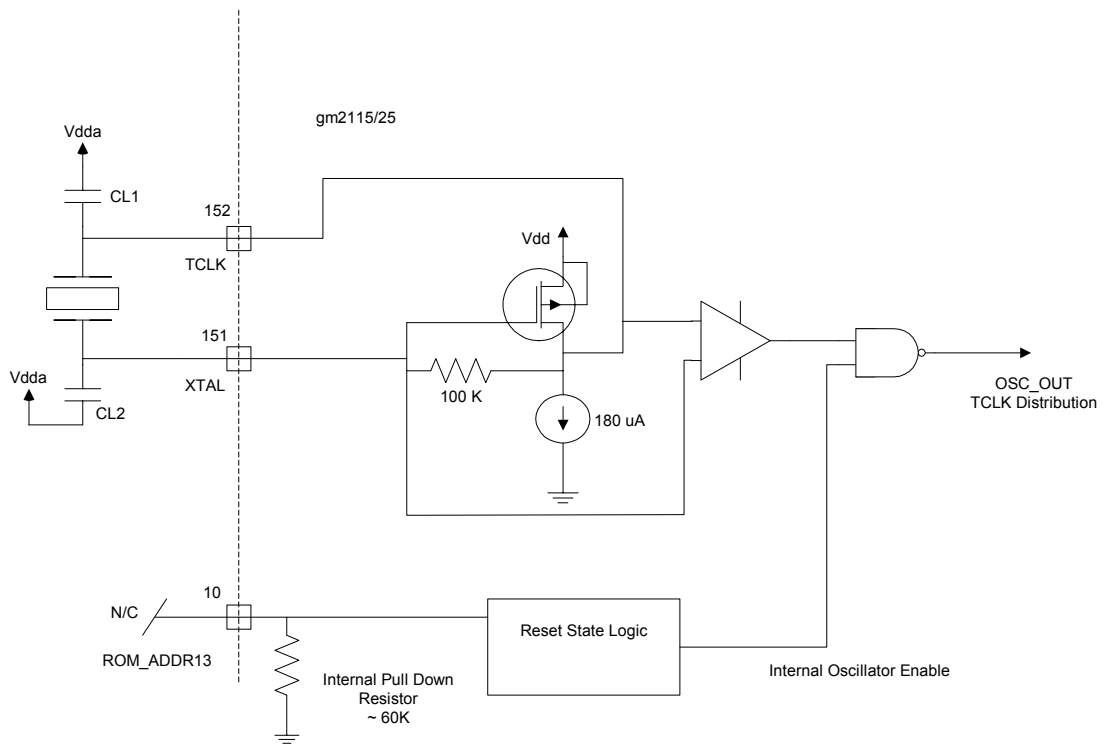
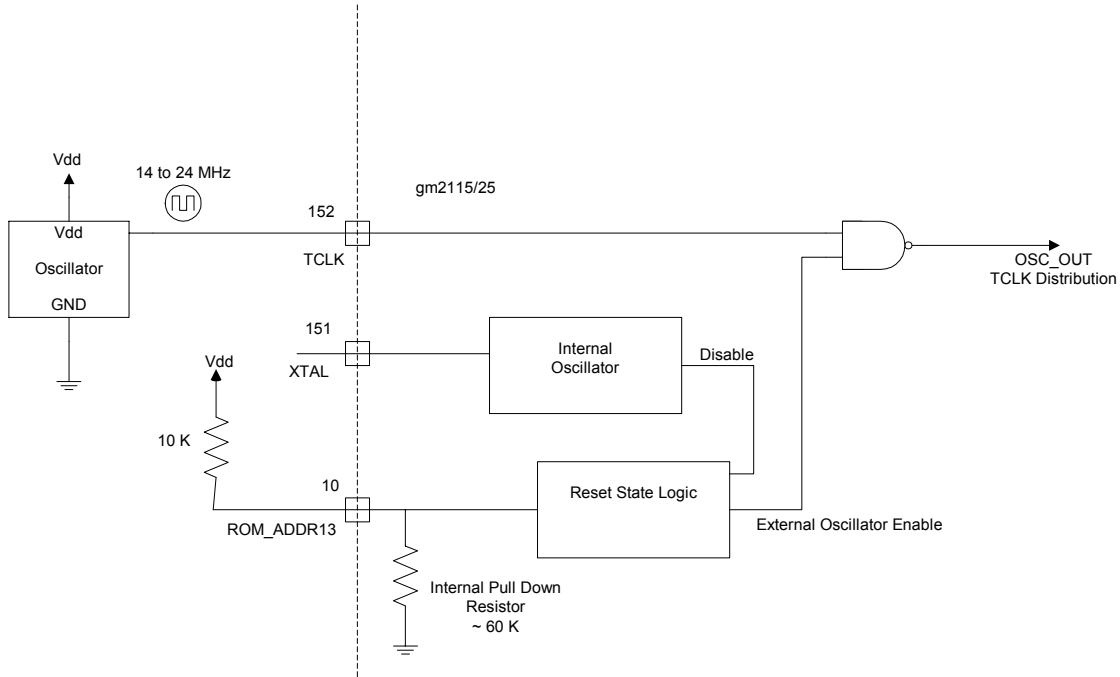

Figure 4. Using the Internal Oscillator with External Crystal
Figure 7. Using an External Single-ended Clock Oscillator
1. Crystal Input Clock (TCLK and XTAL). This is the input pair to an internal crystal oscillator and corresponding logic. A 14.3 MHz TV crystal is recommended. Other crystal frequencies may be used, but require custom programming. This is illustrated in Figure 4 below. Alternatively, a single-ended TTL/CMOS clock oscillator can be driven into the TCLK pin (leave XTAL as N/C in this case). This is illustrated in Figure 7 below. This option is selected by connecting a 10KΩ pull-up to ROM_ADDR13 (refer to Table 16). See also Table 13.
Another option for providing the reference clock is to use a single-ended external clock oscillator. When the gm2115/25 is in reset, the state of the ROM_ADDR13 (pin 10) is sampled. If ROM_ADDR13 is pulled high by connecting to VDD through a pull-up resistor (10KΩ recommended, 15KΩ maximum) then external oscillator mode is enabled. In this mode the internal oscillator circuit is disabled and the external oscillator signal that is connected to the TCLK pin (pin number 152) is routed to an internal clock buffer. This is illustrated in Figure 7.